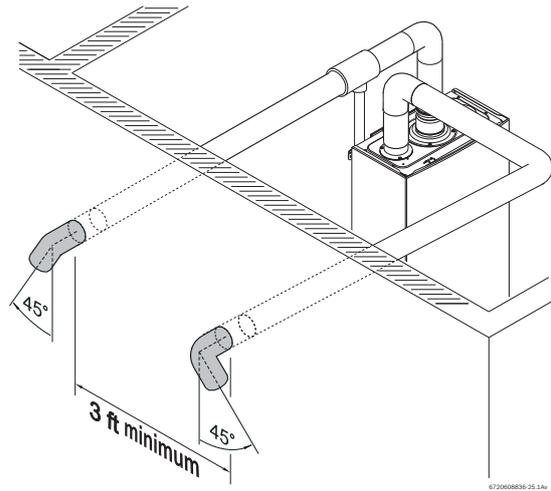

Fig. 13 Horizontal parallel venting system (twin pipe direct vent)
- ▶ Attach the flue gas exhaust accessory to the top of the unit Fig. 13 (position 1) using the 4 screws and gasket provided, and fully insert vent pipe into the accessory.